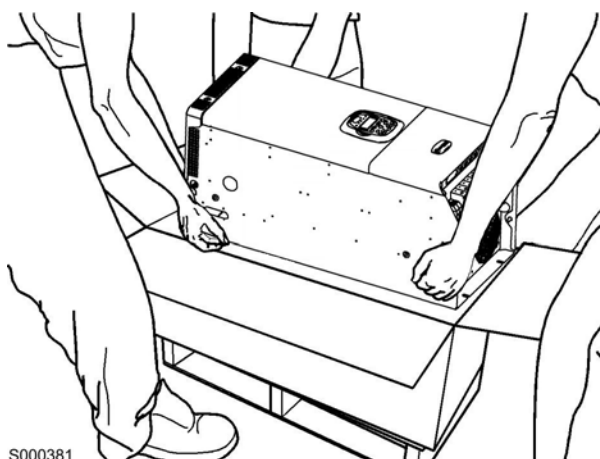

Figure 7: The Sinus Penta is unpacked
3. Remove the Sinus Penta from its packing by lifting it from its sides. To avoid damaging the packing, lift the product keeping it horizontal to the floor (see Figure 7).